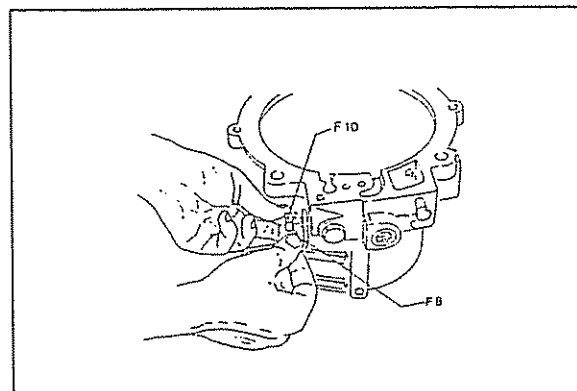

Figure B14
5.1. Using a 11/16" wrench remove the nut, (T2-2 #71) washer (T2-2 #70) and lever (T2-2 #69) from the control valve (T2-2 #62) . See Figure B14.